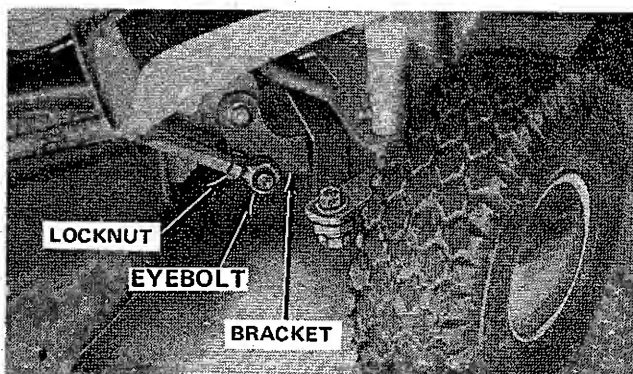

Figure 3-6. Mower Front-To-Rear Pitch Adjustment
4. To obtain the above blade setting, remove the eyebolts from both sides of the bracket (Figure 3-6) loosen locknut and adjust turnbuckle until the blade obtains the desired setting. Tighten locknut and secure eyebolt on bracket.